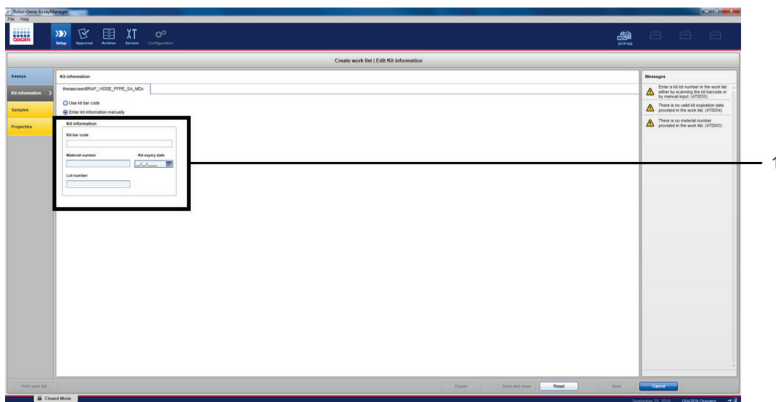

Figure 7. “Create work list” window on the “Kit information” tab. 1 = Enter kit information.
7. Click the “Kit information” tab and enter the following kit information (Figure 7):